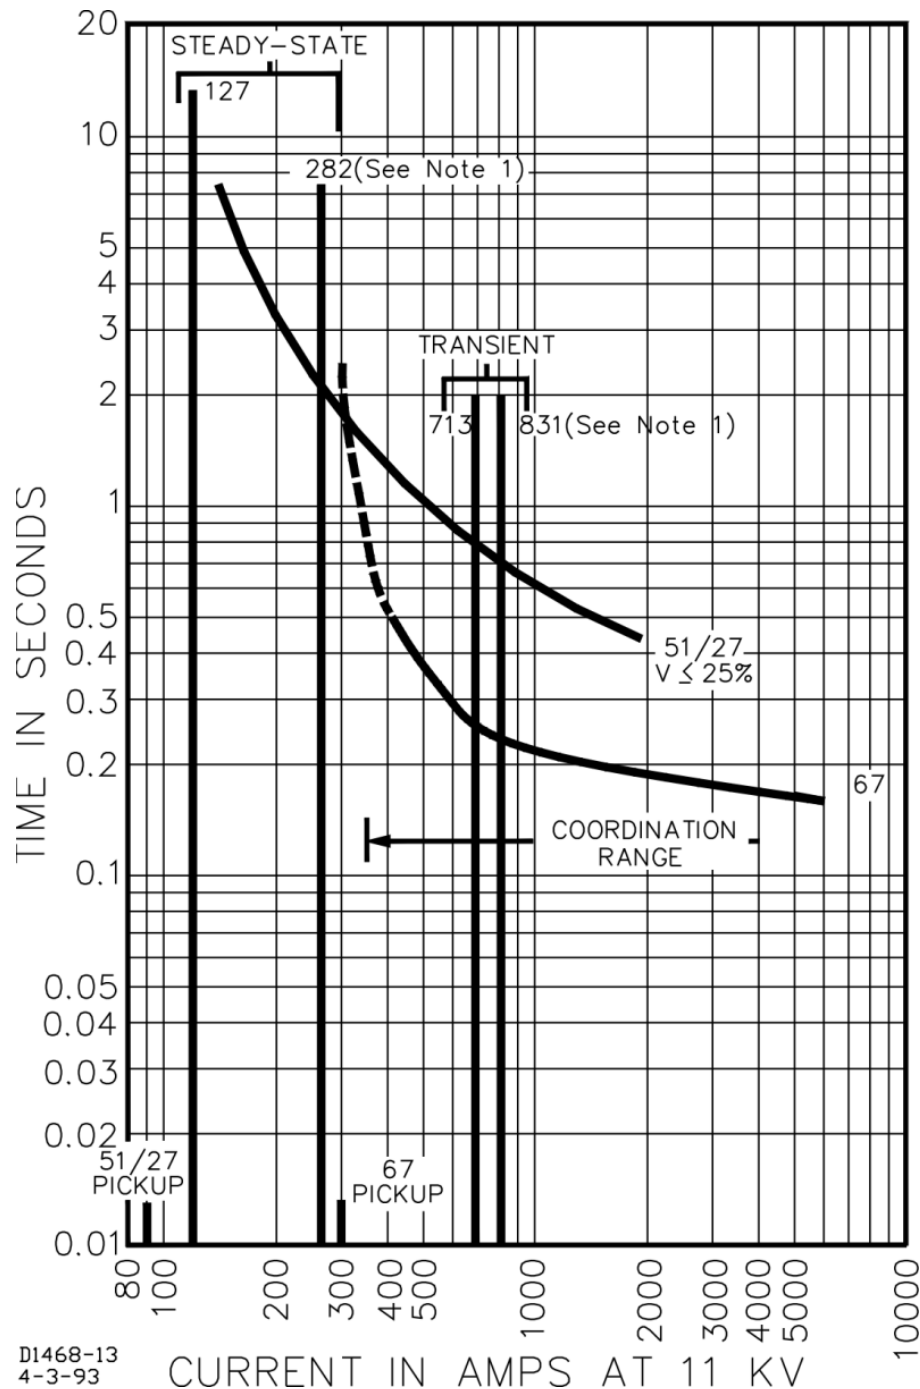

Figure 5-10. Relay 51/27 Coordination with Relay 67 for Fault 3 Example
- (5) 51/27 transient level time at 7.4 multiples and **TIME DIAL** setting of 22: **0.72 s.**
(6) 51/27 relays coordinate with 67 relays for a high-side fault at the transient level. However, it appears that the current may drop below the 67 relay pickup (300 amperes) before this relay can operate. Should the 67 relays fail to operate, the 51/27 relays will trip the generators. Figure 5-10 plots these two relay characteristics. If the generator is fully loaded at 194 amperes with a 0.85 PF, the superposition of this current and the fault current at -90° yields a total current of 831 amperes at the transient level and 282 amperes at the steady-state level with no regulator boosting. The relays are selective down to about 350 amperes.
(7) Assuming that the 67 relays will not operate for fault 3, the generators will be unnecessarily tripped if the line relaying fails to operate or if breaker R fails to interrupt the fault. Redundant line relaying will minimize the need for generator tripping. Use of a breaker-failure timer set to about 0.25 seconds would avoid generator tripping for a failure of breaker R to interrupt.